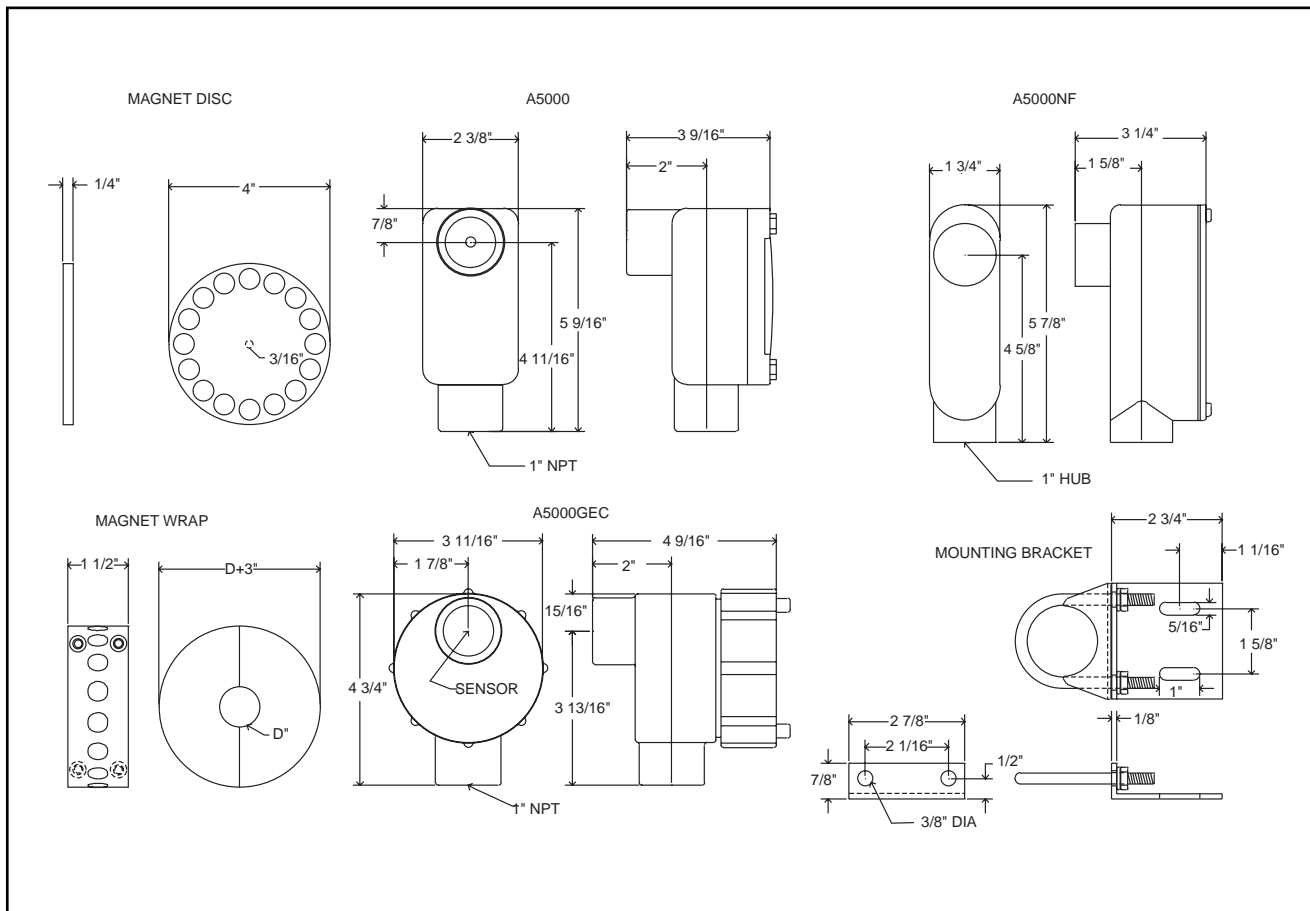

Figure 2
4.1 The A5000GEC-24VDC zero speed switch housing is UL/CSA listed and certified for Class I, Div. 1 & 2, Group D. Class II, Div. 1 & 2, Group E, F, & G. Class III. (see figure 2, page 3)